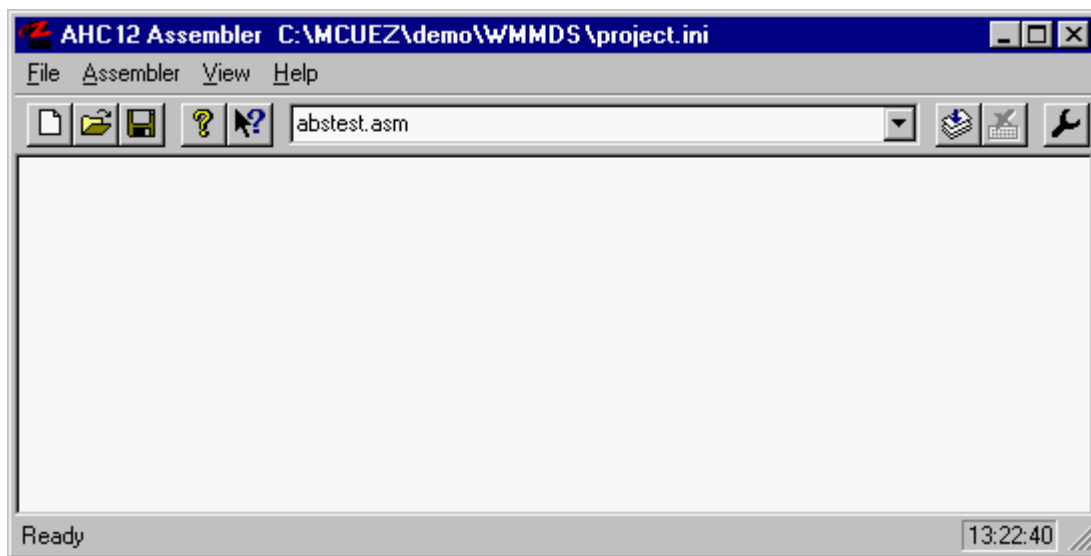

Figure 11-1. Starting the MCUez Assembler
1. Start the macro assembler by clicking the **eZASM** icon in the **MCUez Shell** toolbar. The assembler is started as shown in **Figure 11-1**. Enter the name of the file to be assembled in the editable combo box, for example, *abstest.asm*.